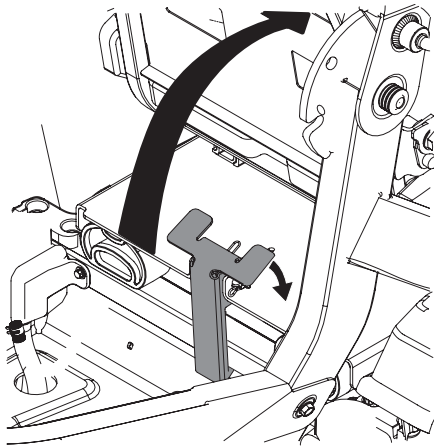

Figure 22
4. Rotate the entire seat pan upward (Figure 22).